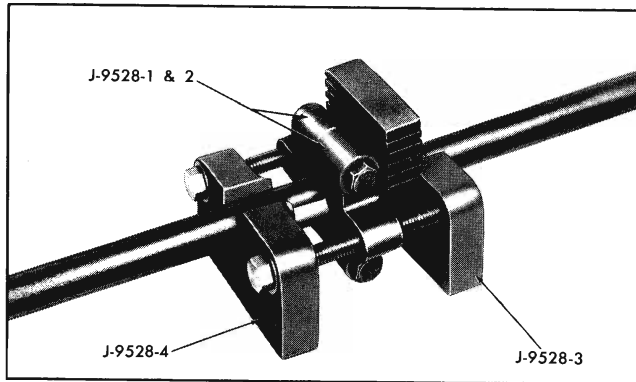

Fig. 4-23 Tool Positioned to Install Bearing
4. Position J-9528-4 in place and install bolts through J-9528-1 & 2 and into J-9528-3 (Fig. 4-23).